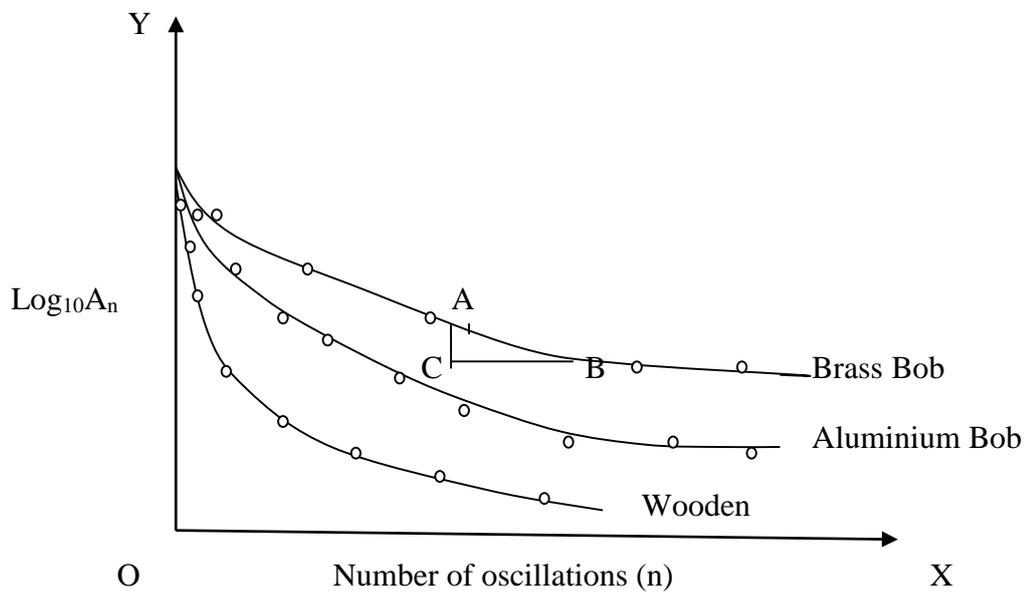

Figure 2
You will see that the graph plotted comes out nearly a straight line as shown in figure 2. From the graph, find the slope $\frac{\Delta \log_{10} A_n}{\Delta n}$. Now divide this slope by time period T_1 of the pendulum to calculate $\frac{\Delta \log_{10} A_n}{\Delta t_1}$ because $\Delta t_1 = T_1 \times \Delta n$. In the same way, plot graphs for aluminium and wooden bobs and calculate the corresponding values of $\frac{\Delta \log_{10} A_n}{\Delta t_2}$ and $\frac{\Delta \log_{10} A_n}{\Delta t_3}$. Now, follow the following procedure to calculate the coefficient of damping (K), relaxation time (τ) and quality factor (Q)-